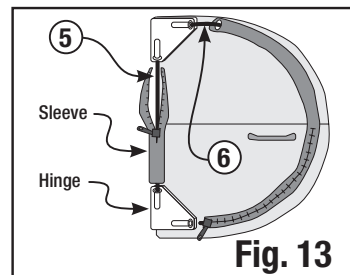

Fig. 13
2. Close zippers after inserting poles. (Fig. 13)